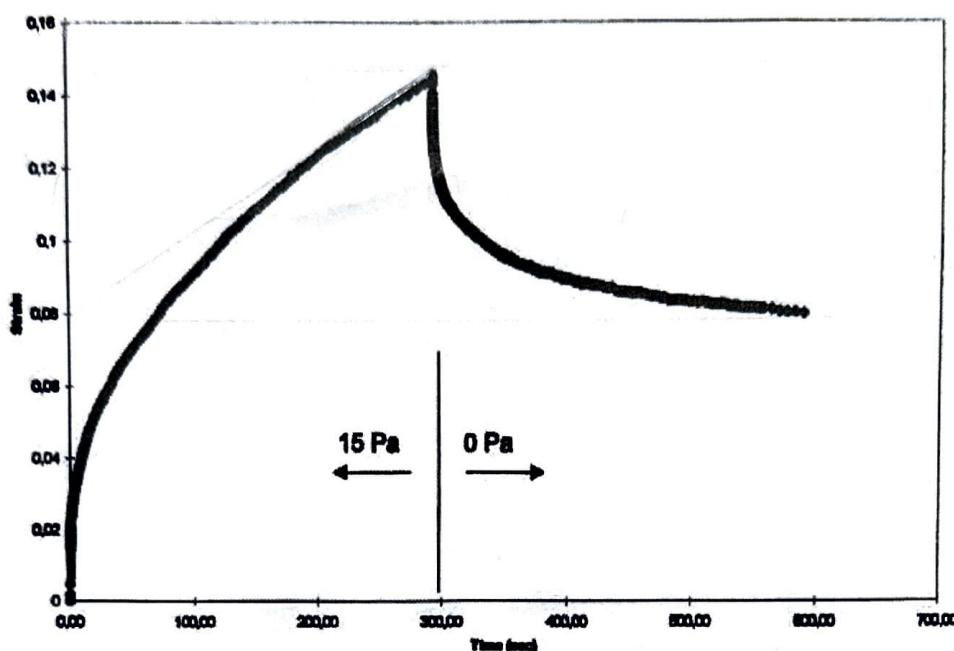

Figure 1. The creep recovery test
3. Calculation. The figure 1 shows results of a creep-recovery test (strain vs. time) for a polymer melt. The test was done in a linear region and the stress was 15 Pa. How are you able to determine if the creep test is done in a linear region? Determine from the figure: the zero viscosity η_0 , the steady-state creep compliance J_s^0 and the steady-state recoverable compliance R_∞^0 . Evaluate what the strain would be at the end of the creep phase, if the stress was 5 Pa.